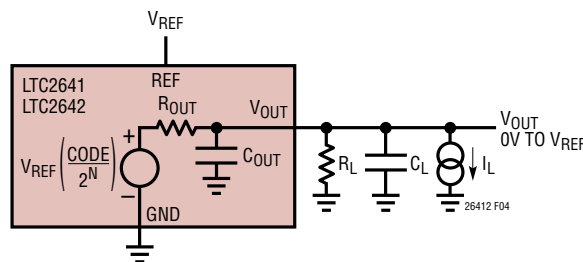

Figure 4. V_{OUT} Pin Equivalent Circuit
However, unbuffered operation requires that appropriate loading be maintained on the V_{OUT} pin. The LTC2641/LTC2642 V_{OUT} can be modeled as an ideal voltage source in series with a source resistance of R_{OUT} , typically 6.2k (Figure 4). The DAC's linear output impedance allows it to drive medium loads ($R_L > 60k$) without degrading INL or DNL; only the gain error is increased. The gain error (GE) caused by a load resistance, R_L , (relative to full scale) is:
(Figure 4). Settling to 1/2LSB at 16-bits requires about 12 time constants ($\ln(2 \cdot 65,536)$). The typical settling time of $1\mu\text{s}$ corresponds to a time constant of 83ns, and a total ($C_{OUT} + C_L$) of about $83\text{ns}/6.2\text{k} = 13\text{pF}$. The internal capacitance, C_{OUT} is typically 10pF, so an external C_L of 3pF corresponds to $1\mu\text{s}$ settling to 1/2LSB.